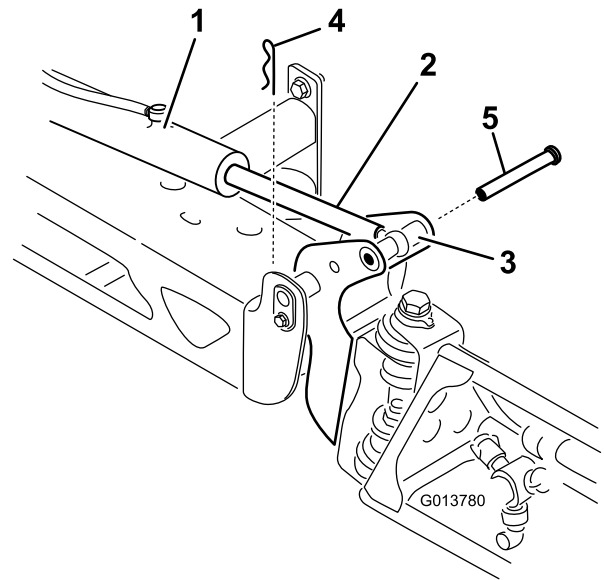

Figure 108
2. Remove the hairpin from the clevis pin (Figure 108).
3. Lift up on the section, remove the clevis pin, and slowly lower the section to the ground (Figure 108).
7. While supporting the spray section, insert the clevis pin through both boom pivot and actuator rod (Figure 108).